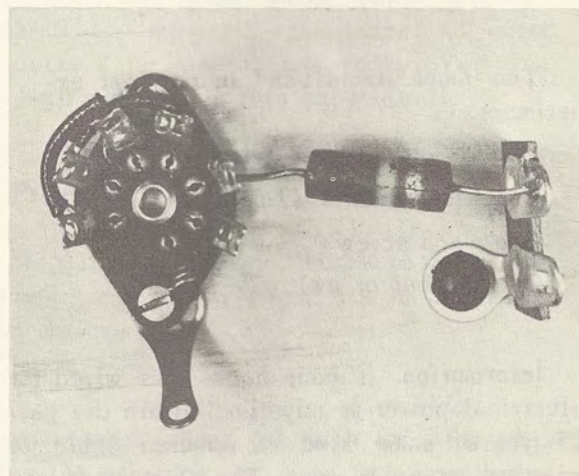

Fig. 2-11
Step 5. In the same way, connect and solder the other end of the resistor to the lug on the tube socket. The work should look like what is shown in Fig. 2-11.